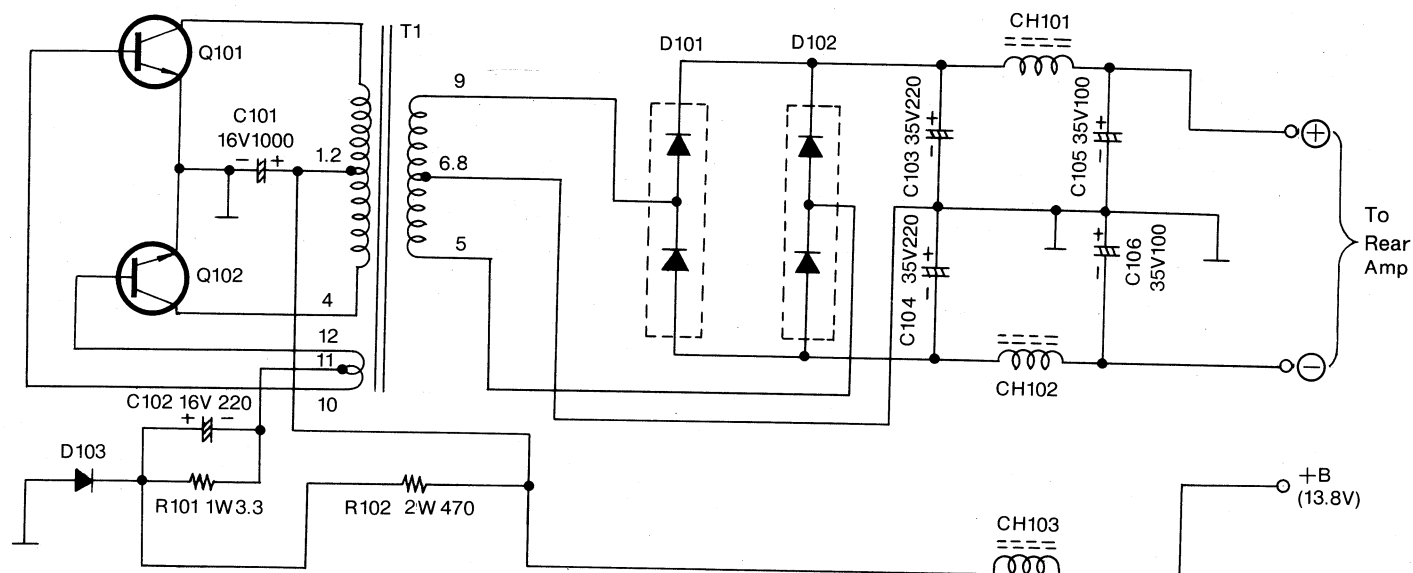

Fig. 42 DC-DC Converter Circuiting
1. The DC power from the battery is chopped by Q101 and Q102 to appear as a modified form of AC voltage, to enable transformer action by T1. See Fig. 42.